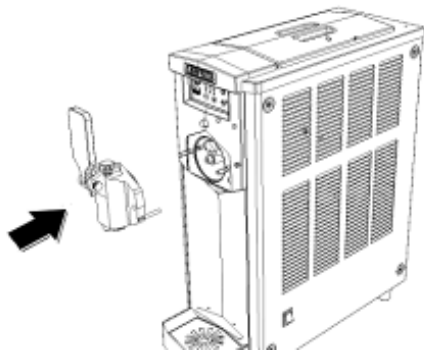

Fig. 53
- Refit the flange so that the locating pin mates with its seat (Fig. 53).